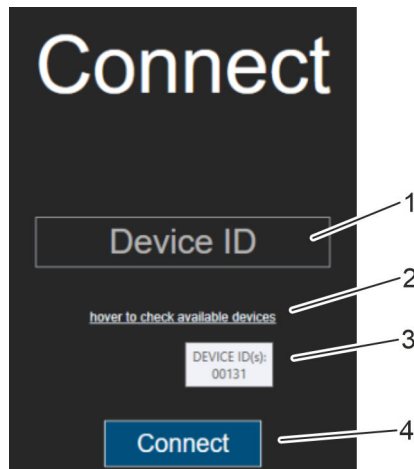

Fig. 41: Connecting the software
To see the 'device ID' number, move the mouse cursor over help display (Fig. 41/2).
⇒ All nutrunners available for connection to the software are shown (Fig. 41/3).
4. Enter the nutrunner's 'device ID' number (Fig. 41/1) and press 'Connect' (Fig. 41/4).